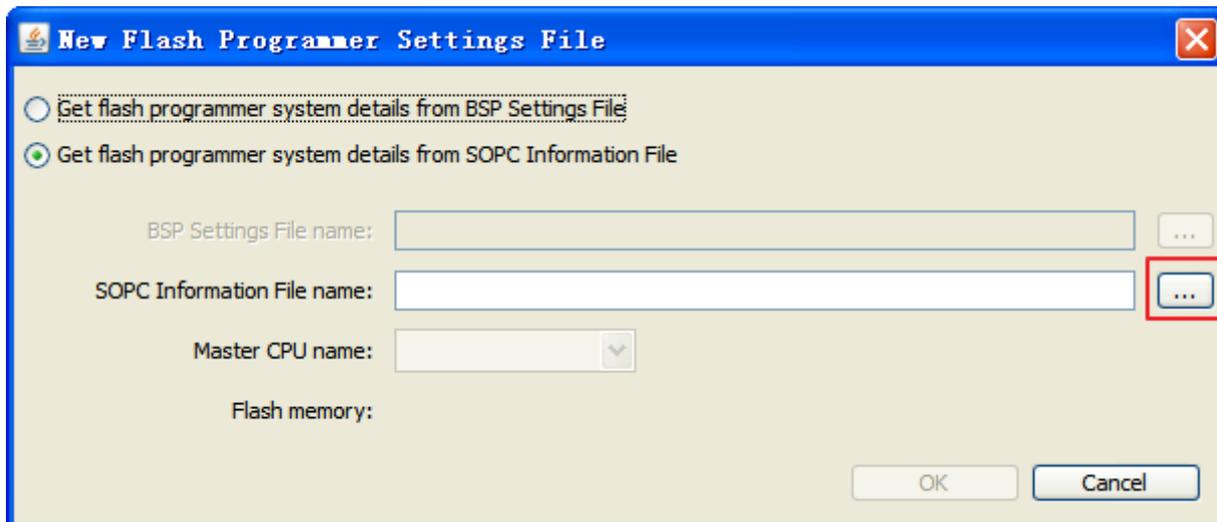
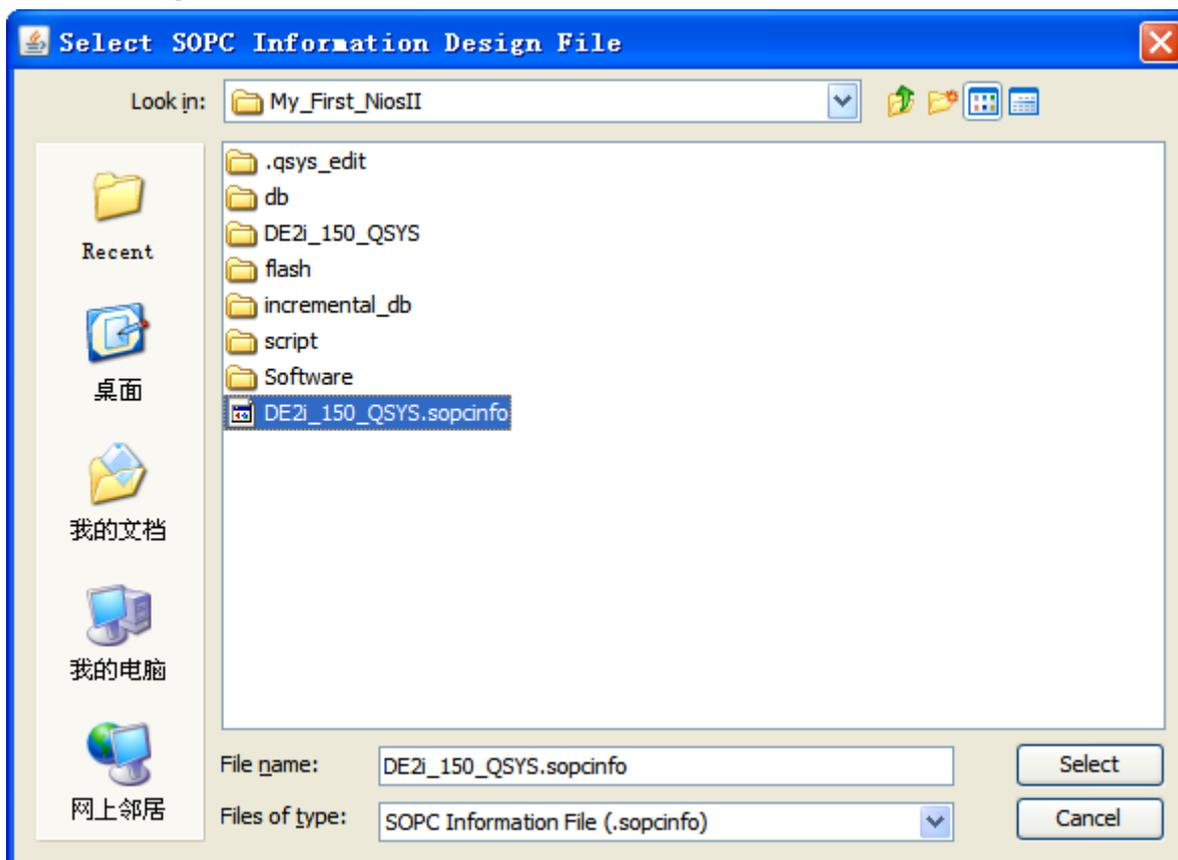

Figure 3-24 New Flash Programmer Settings File
Figure 3-25 Select SOPC Information Design File[1]
2. Choose **File > New** to open New Flash Programmer Setting File box as shown in Figure 3-24.
3. Click the button which is mark in Figure 3-24, and open Select SOPC Information Design File box as shown in Figure 3-25.